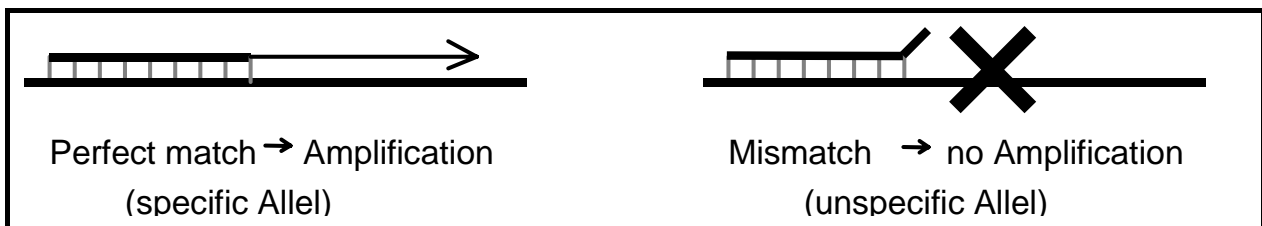

Fig. 1: Principle of SSP-PCR
The basic material for typing with **HISTO TYPE B\*27 high** is purified DNA. The test procedure is done by using the Sequence Specific Primers (SSP) ①-PCR (see Fig. 1) [2,3]. This method is based on the fact that primer extension, and hence successful PCR relies on an exact match at the 3'-end of both primers. Therefore, only if the primers entirely match the target sequence is amplification obtained which is subsequently visualised by agarose gel electrophoresis.